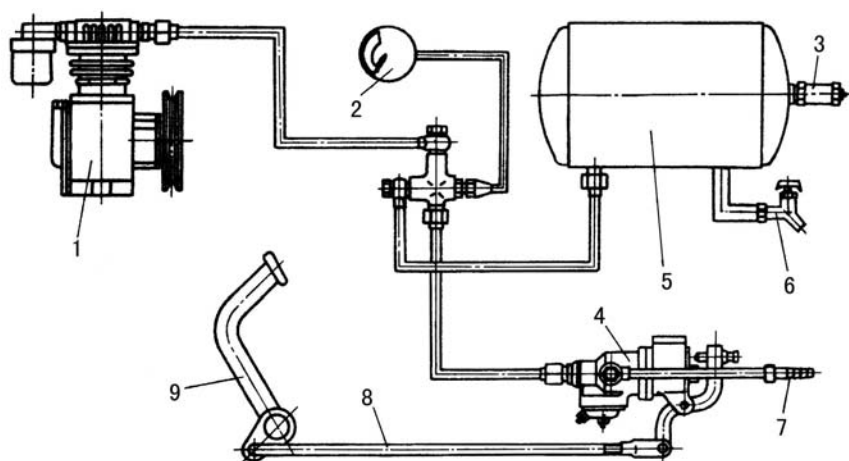
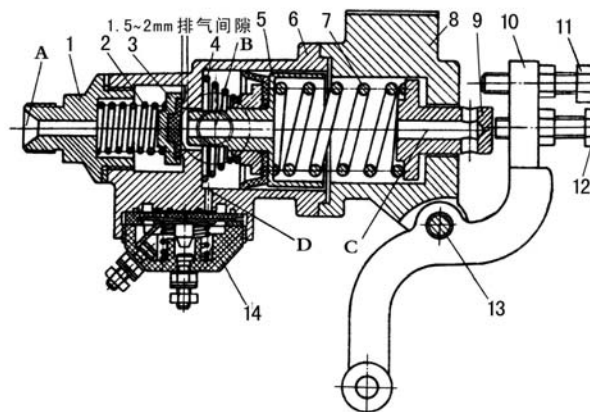

Fig.4-23 Trailer air brake system diagram
Fig.4-24 Brake valve
In order to ensure safety of the trailer transportation of the tractor and achieve the aim of prompt stop of the tractor and trailer, air brake system is mounted on the tractor. The system is made up of air compressor (1), receiver (5), brake valve (4), air pressure gauge and pipes (Fig.4-23).
Air brake trailer is braked through the compressed air driving the brake hung on the trailer wheels. Firstly the compressed air is conveyed to receiver from air compressor through pipes, then is conveyed to the brake air chamber of the trailer wheels through air-bleed hole (hole B in Fig.4-24) of the brake valve. When stepping on the brake pedal, through the connecting rod (8 in Fig.4-23) driving the pull arm 10 of brake valve (Fig.4-24) to rotate around axle pin 13 to make adjusting bolt 12 press down brake pull rod 9, compress balance spring 7, push core rod 5, compress return spring 4, push valve seat assembly 3 aside (compress valve seat spring 2), open high pressure air passage, and at this moment, the compressed air of receiver, from hole A to valve seat hole, then to mouth of hole B and continuously respectively enter the left and right brake air chambers of trailer wheels through air-bleed pipe (7 in Fig.4-23) of brake valve and three-way pipe connector and push the brake tappets of left and right brakes, and thus achieve brake of the trailer.
valve seat spring, and reseal the passage between receiver and the left and right brake air chamber of the trailer. At this moment the waste gas (compressed air) in left and right air chamber will go into the air through pipes, hole B of brake valve, inner hole of core rod and inner hole C of tappets.(Fig.4-24).
During using if the air pressure of receiver drops too fast, and all the pipe connectors are confirmed to have no air leak, then screw out the valve cover connector 1 (Fig.4-24), clean the gathered dust on the surface of the rubber of valve seat assembly 3, and slightly grind the compressed prints on fine abrasive cloth if necessary. Generally after 1000 hours' work of the valve, should dismantle and clean all the parts, grind the valve seat, adjust the maximum pressure of brake, and check the seal performance after assembling.
When the brake pedals are stepped into the lowest place, the maximum pressure of the air entered into the brake air chambers of trailer should be 0.45-0.5MPa. During adjustment, connect an air pressure gauge in the pipes which pass through brake air chamber, rotate the adjusting bolt 12 to contact tappet 9 according to Fig.4-24, then step on the pedals again to the lowest position, if the numerical value on the air pressure gauge is lower than 0.45Mpa, then use nut to lock the limiting bolt tightly.
The brake time of trailer should be basically synchronous with the brake time of the tractor, otherwise it should be readjusted; adjust connecting rod 8 (Fig.4-23) to add its length, the brake time of trailer will advance; adjust connecting rod 8 and reduce its length, the brake time of trailer will extend. Generally the brake time of air brake trailer should be a bit shorter than the brake time of tractor.